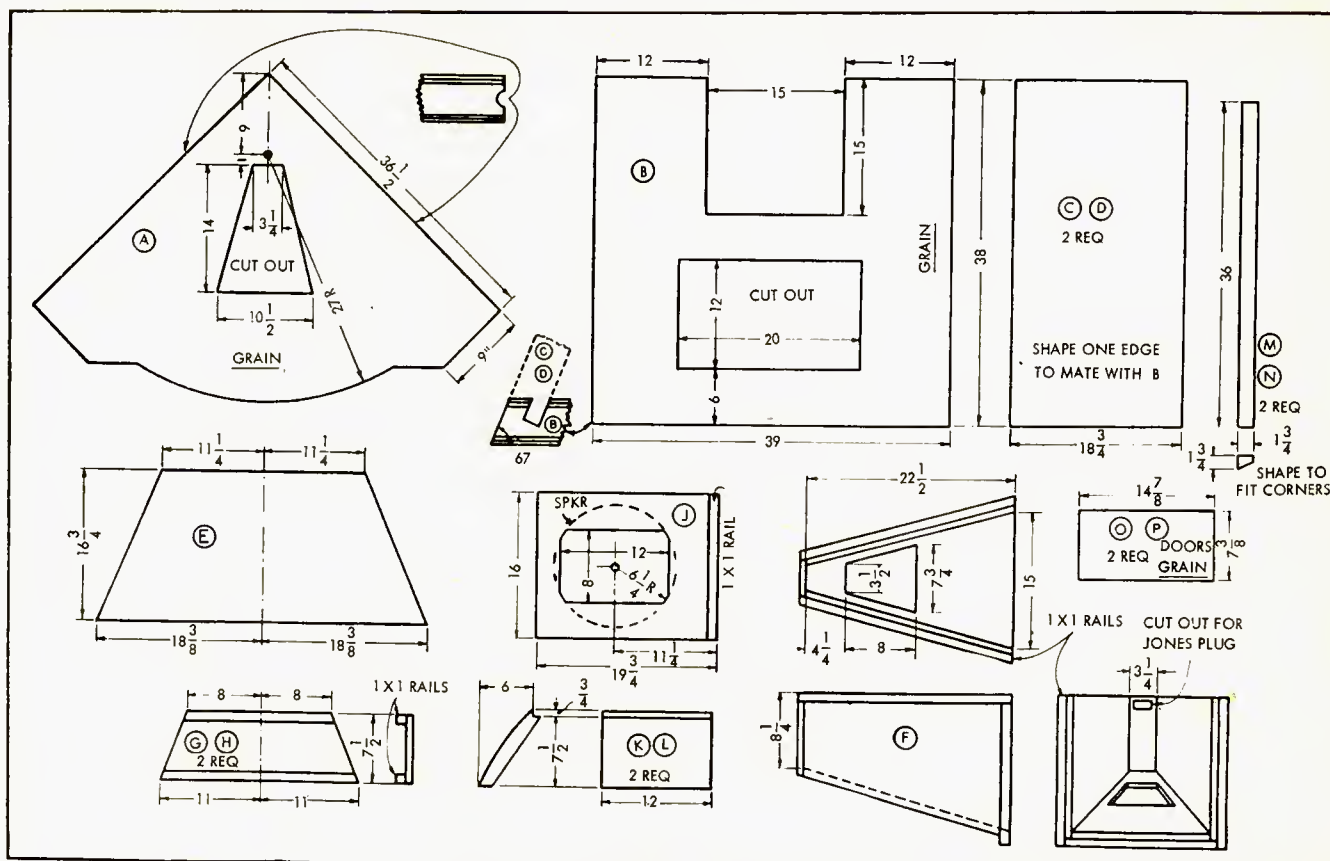

Fig. 4. Details of the pieces which comprise the lower cabinet, speaker well, and tube enclosure. Latter is for 12-in. tube, now almost obsolete.
Figure 4 shows the major parts used in the assembly of the low-frequency portion of the speaker, together with the housing for the picture tube. This housing is scaled for a 12LP4, which is obsolete by now. If a larger tube is to be used, the housing should be arranged to be large enough. However, it is felt that the majority will not combine TV with the speaker anyhow, and will simply omit the tube housing or else place the high-frequency horn at this point, with a suitable housing around it. Figure 5 shows one model with the high-frequency horn in a space at the top.
be described in the following pages, and the parts are not shown in Figure 4. However, it might be well to plan on another veneered piece nearly as large as the top (A), since the grain should run parallel with the front of the cabinet. The two tops will cut readily from one panel of hardwood veneer.